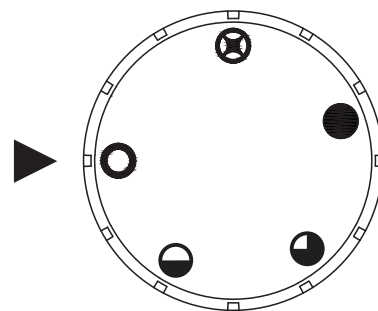
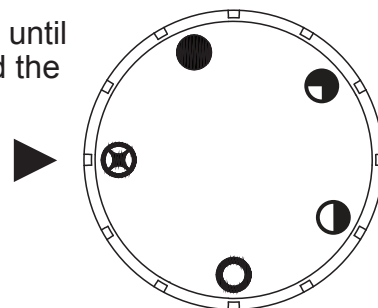

Fig. 22a
Fig. 23a
3. Push in gas control knob slightly and turn clockwise  to OFF "○" position. (See Fig. 22a)
4. Wait (5) minutes to clear out any gas. Then smell for gas, including near the floor. If you smell gas, STOP! Follow "B" in the safety information above. If you don't smell gas, go to the next step.
5. Push in gas control knob slightly and turn counterclockwise  to the PILOT "⊗" position. (See Fig. 23a) Depress control knob.
If after several tries the pilot still goes out, turn the gas control knob clockwise  to the OFF "○" position and call your service technician or gas supplier. Fig. 23a